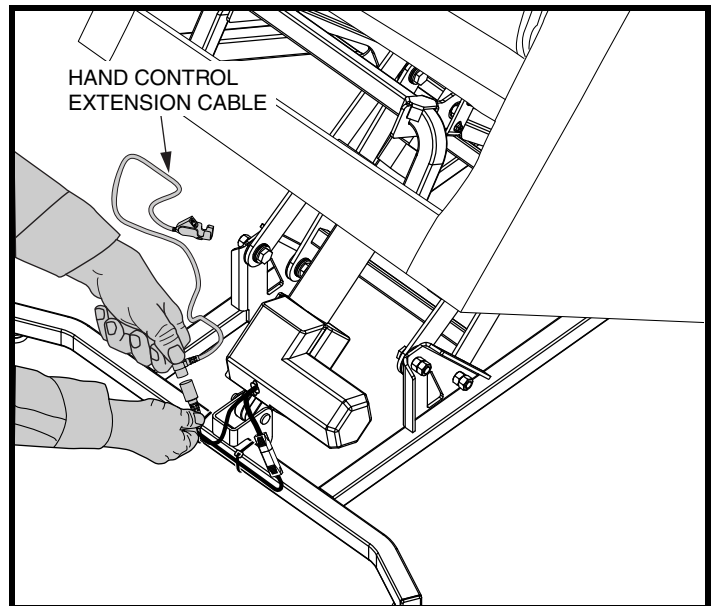

Figure 6. Disconnecting the Hand Control Extension Cable
9. Disconnect and discard the hand control extension cable from the actuator. **See figure 6.**